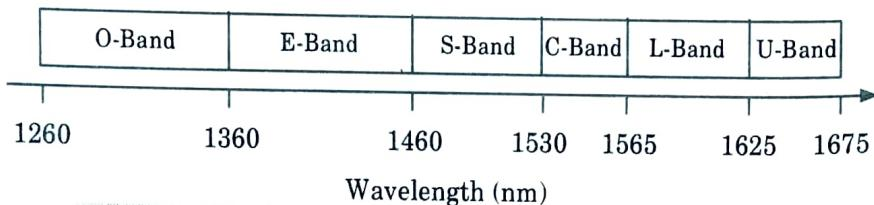

Fig. 1.1.1. Designations of spectral bands used for optical fiber communications.
3. Fig. 1.1.1 shows and Table 1.1.1 defines the regions which are known by the letters O, E, S, C, L and U.